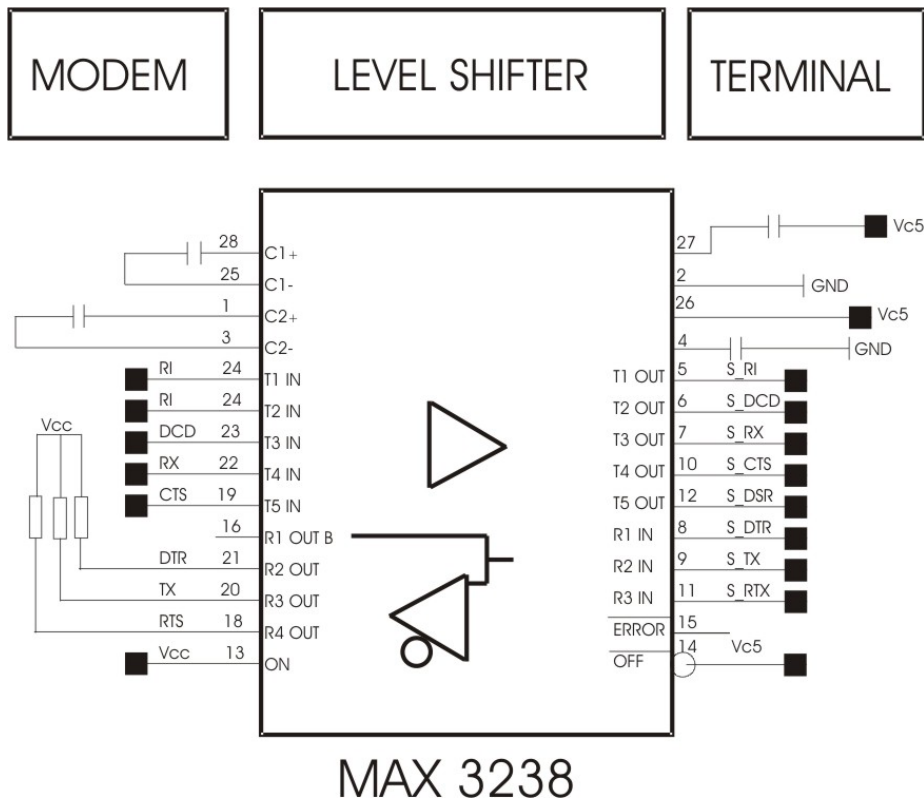

Figure 23* : level shifter application diagram for serial link
E.g. in order to provide RS232 compatible levels use the 3 V compatible MAX3232 transceiver from Maxim (see figure 23) or others based on the required levels. If a RS232 compatible serial level is obtained, then you can directly communicate with a host device serial port. All supported variable baud rates can be controlled from the appropriate screens in the application software (e.g. HyperTerminal).